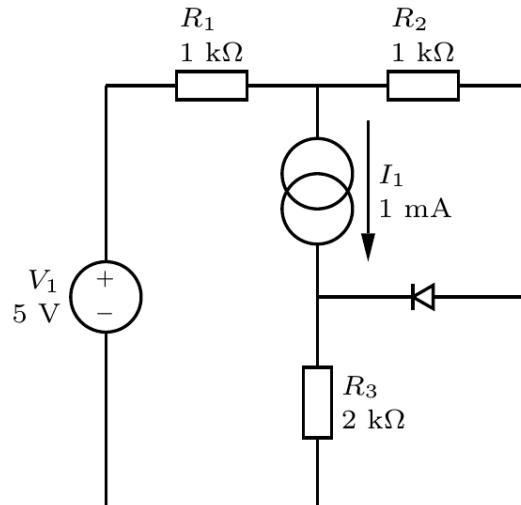

Figure 1a
- a. The diode in figure 1a has a forward voltage drop of 0.7V but is otherwise ideal.
For the circuit of figure 1a,